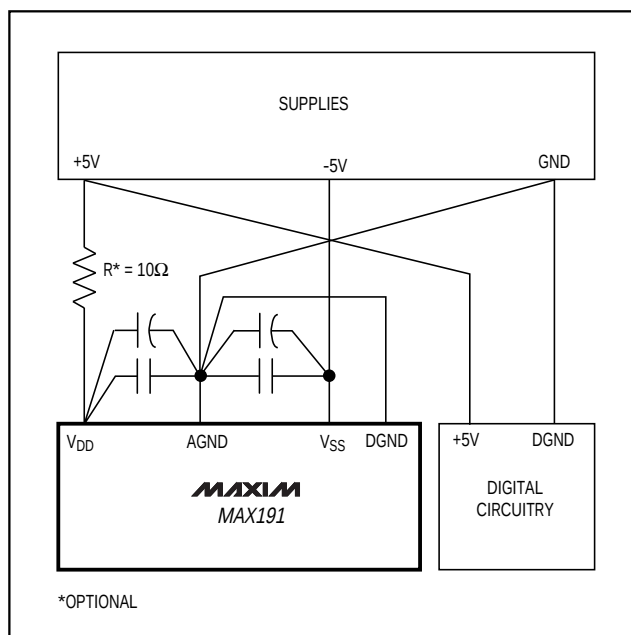

Figure 23. Power-Supply Grounding Connection
Figure 23 shows the recommended system ground connections. Establish a single-point ground ("star" ground point) at AGND, separate from the logic ground. Connect all other analog grounds and DGND to it. No other digital-system ground should be connected to this single-point analog ground. The ground return to the power supply for this star ground should be low impedance and as short as possible for noise-free operation.
0.01μF and 10μF bypass capacitors. Minimize capacitor lead lengths for best supply-noise rejection. If the +5V power supply is very noisy, a 10Ω resistor can be connected as a lowpass filter to filter out supply noise (Figure 23).